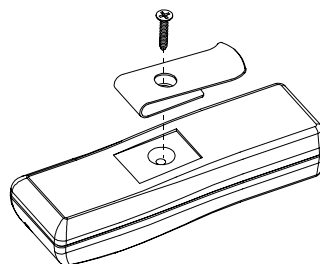

Figure 4. Screw and Belt Clip
A. Remove the screw and the belt clip at the back of the unit (see Figure 4).
A. Carefully position the front cover in place, press it against the base and turn the unit with its back up. Position the belt clip as shown in Figure 4 and re-insert the screw.